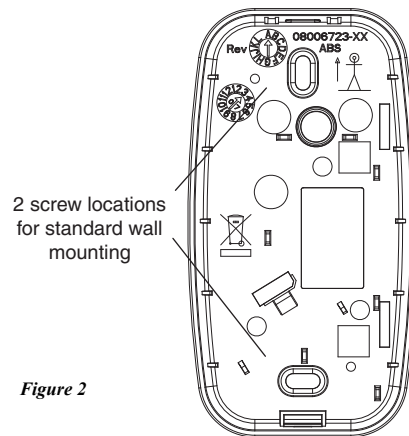

Figure 2
3. Position the backplate, then mark the screw locations (see Fig. 2).